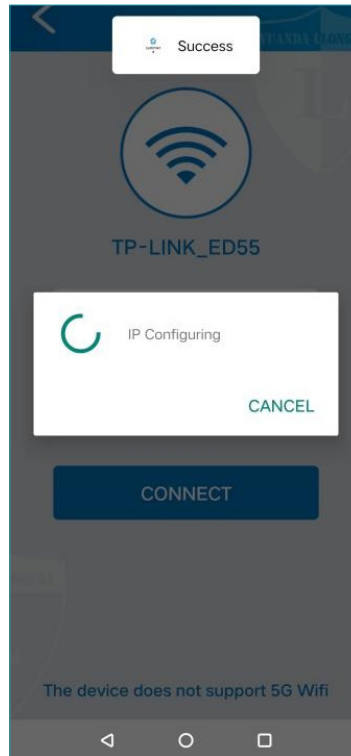

Figure 23
6. After the network configuration is completed, it will prompt that the network configuration is successful (as shown in Figure 23), and return to the main interface.